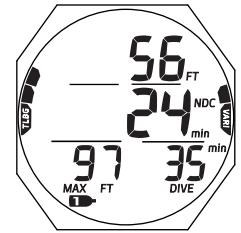

Fig. 67 - NO DECO MAIN
**NO DECO DIVE MAIN**, information includes (Fig. 67):